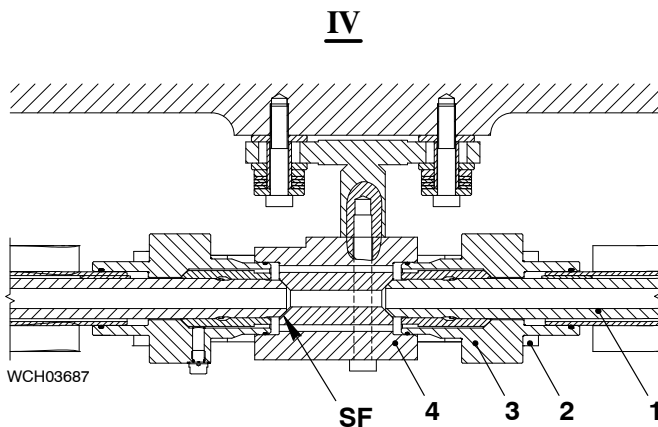

Fig. 8
- 9) Remove the four screws (2, Fig 8) from the flange (3).
- 10) Carefully move the flange (3) away from the intermediate piece (4).
- 11) Carefully remove the HP fuel pipe (1).